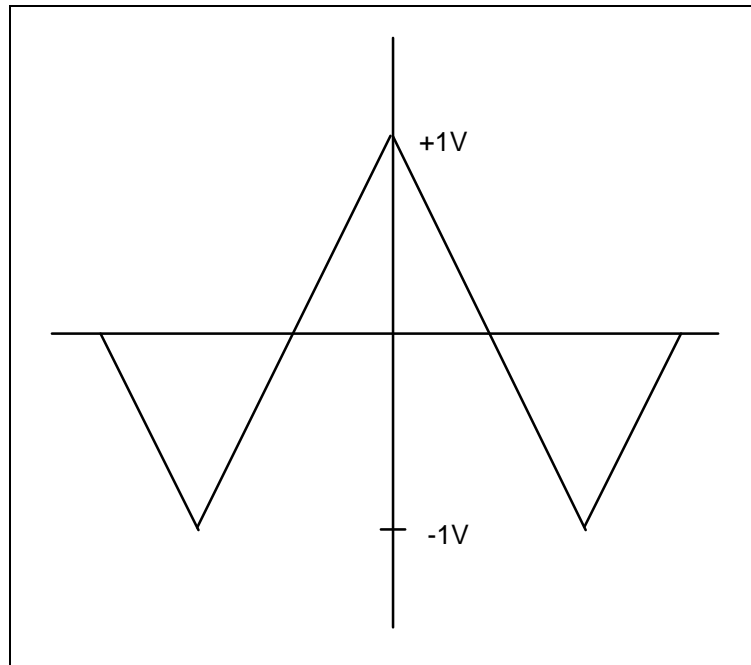

Figure 1
A. Calculate the Fourier series coefficients of the repetitive even triangle wave shown in **Figure 1** with a one volt amplitude ($A = 1 \text{ V}$) and a DC component of zero volts ($\text{DC} = 0\text{V}$). (Do your work on separate sheets of paper and attach them to this handout. For full credit, make sure you show all your work!)